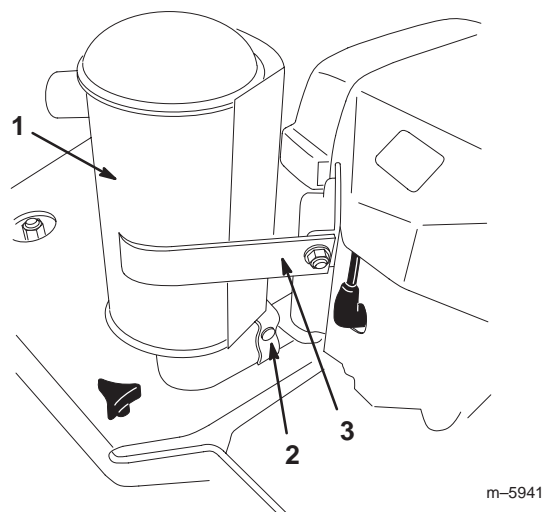

Figure 13
1. Loosen the clamp (Fig. 13).
2. Rotate the muffler forward into the position shown in Figure 13.
3. Secure the muffler bracket (Fig. 13) to the engine bracket with the hardware provided.